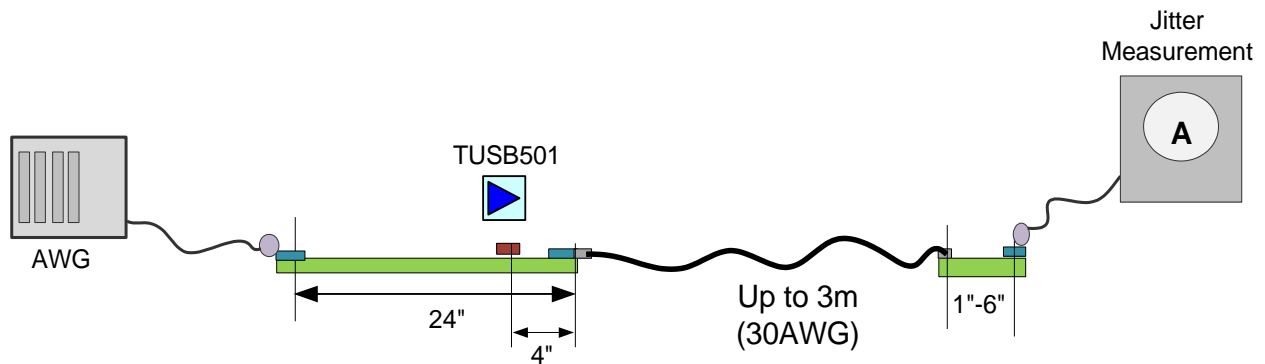

Figure 1. Jitter Measurement Setup
- (1) Includes  $R_J$  at  $10^{-12}$ .
- (2) Measured at the ends of reference channel in Figure 1 with K28.5 pattern,  $V_{ID} = 1000 \text{ mV}_{pp}$ , 5 Gbps, -3.5 dB de-emphasis from source.
- (3) UI = 200 ps.
- (4)  $R_J$  calculated as 14.069 times the RMS random jitter for  $10^{-12}$  BER.